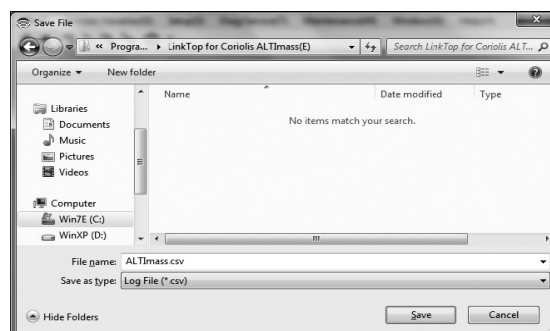

Fig.22
- ⑦ Clicking  on the tool bar or "Chart and Recording" - "Recording" - "Start" from menu shows a dialog box (Fig. 22). Select a disk and folder to create a file, and enter the file name, then click "Save". A CSV file is created and data logging begins.